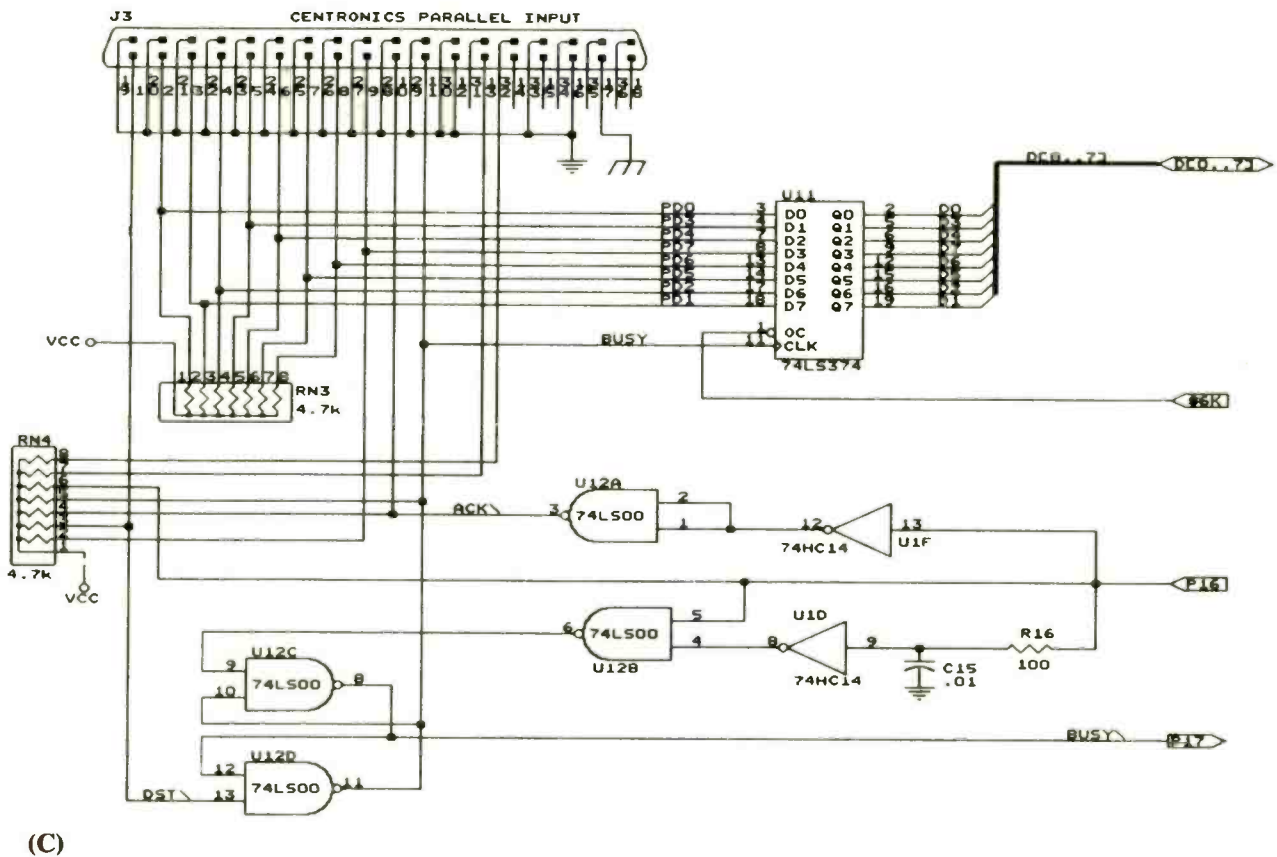

Fig. 3. Schematic details of the Programmer's (A) LED indicator, (B) Serial Port and (C) Parallel Port circuits.
You can operate your Programmer in either of two modes. If jumper JP1 in Fig. 3(B) is not bridging (shorting together) the two contacts